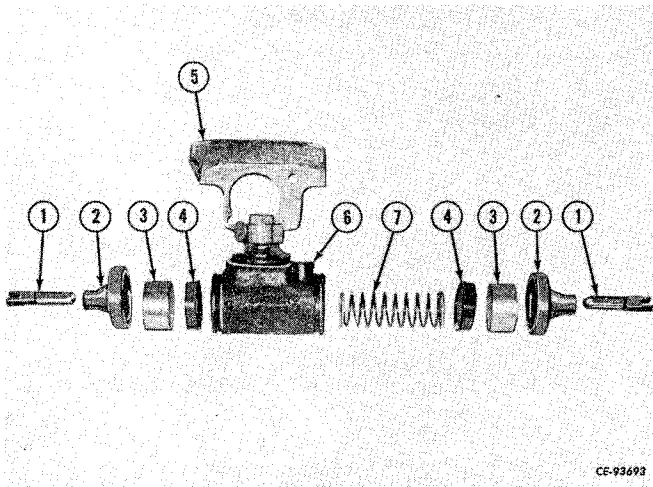

Figure 13-10
Remove the cover (5, Fig. 13-10), rods (1) the boots (2). Slide the pistons (3), cups (4) and spring (7) from the cylinder (6).
Slide the spring (7, Fig. 13-10) cups (4) and pistons (3) in to the bore of the cylinder (6). Install the boots (2), rods (1) and cover (5).